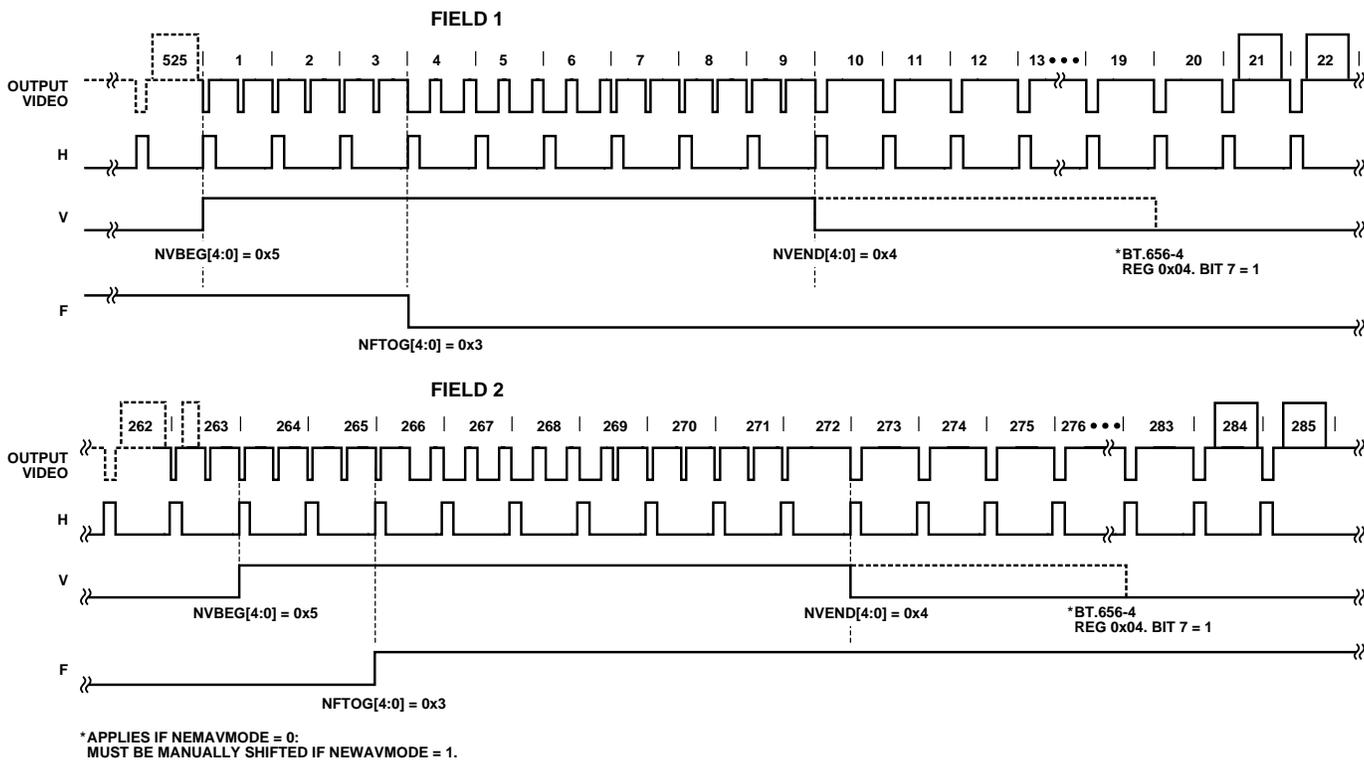
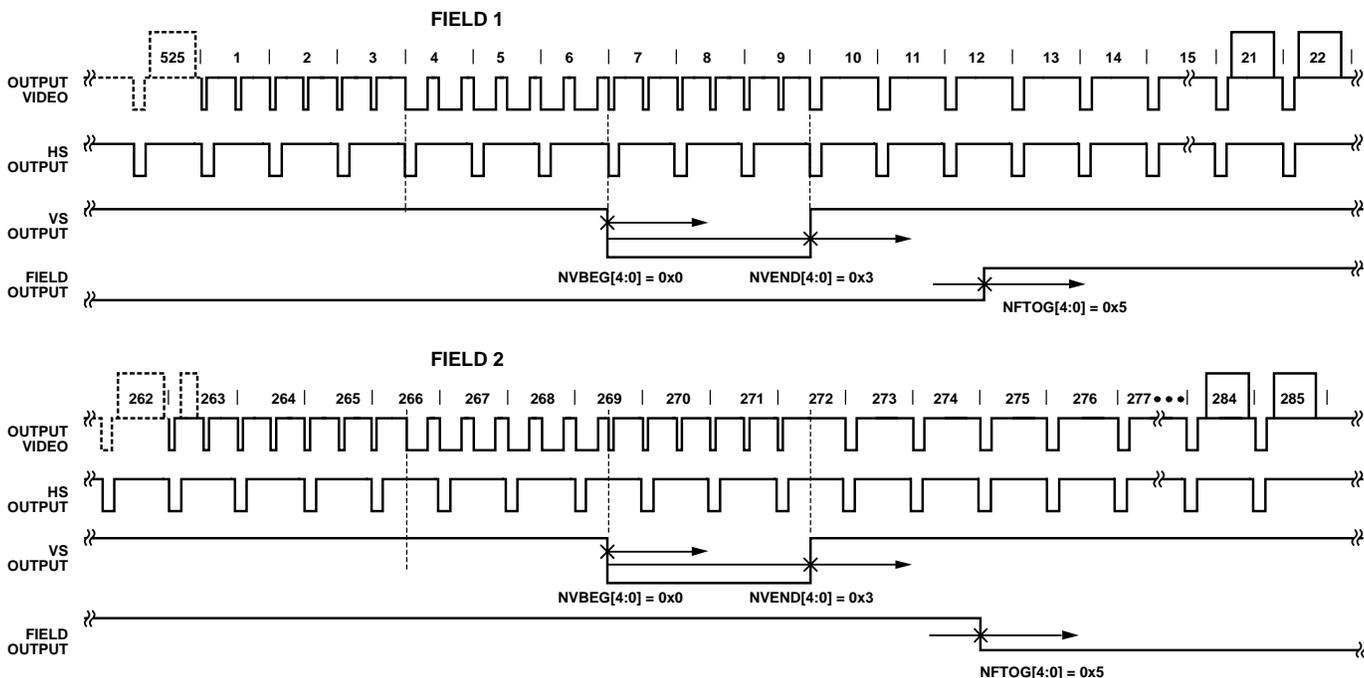
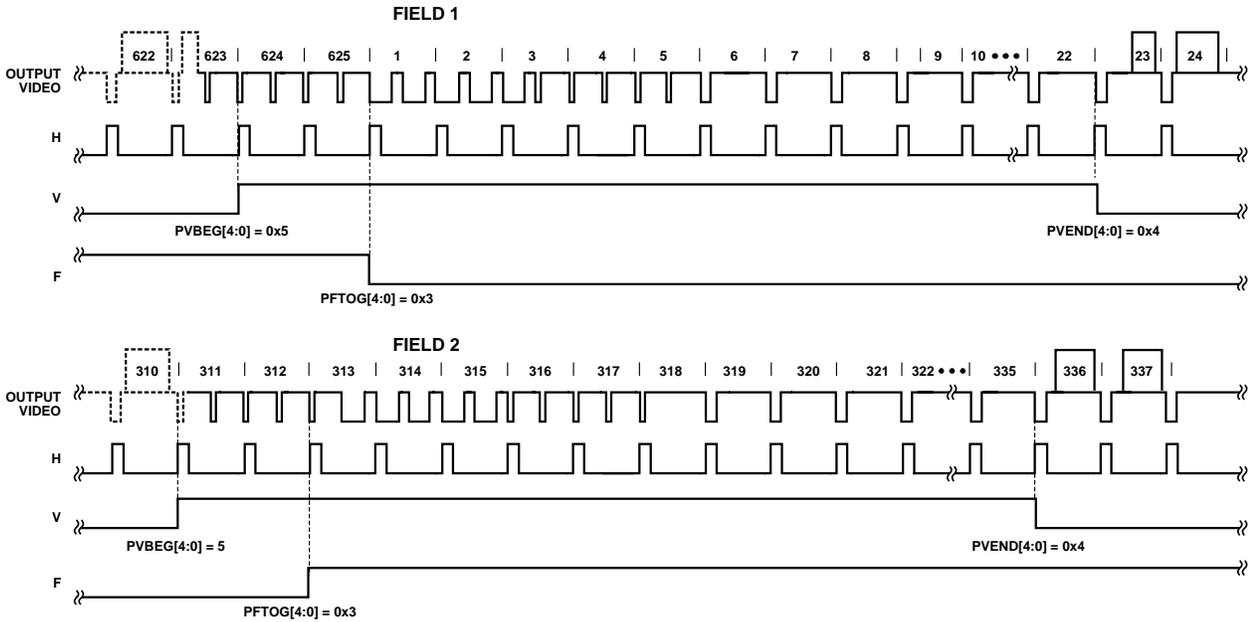
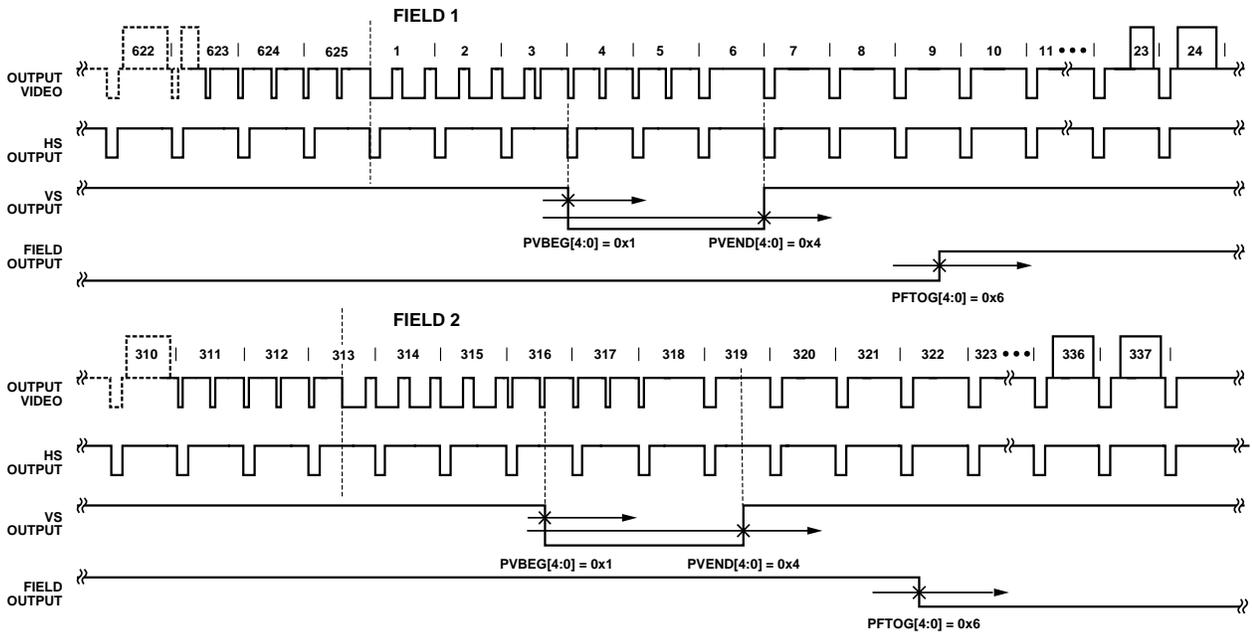

Figure 21. NTSC Default (BT.656). The polarity of H, V, and F is embedded in the data.
Figure 22. NTSC Typical VSync/Field Positions Using Register Writes in Table 55
Figure 26. PAL Default (BT.656). The polarity of H, V, and F is embedded in the data.
Figure 27. PAL Typical VSync/Field Positions Using Register Writes in Table 56
Setting NEWAVMODE to 1 (default) enables the manual position of the VSYNC, Field, and AV codes using Registers 0x34 to 0x37 and 0xE5 to 0xEA. Default register settings are CCIR656 compliant; see Figure 21 for NTSC and Figure 26 for PAL. For recommended manual user settings, see Table 55 and Figure 22 for NTSC; see Table 56 and Figure 27 for PAL.
**Table 55. Recommended User Settings for NTSC (See Figure 22)**
**Table 56. Recommended User Settings for PAL (See Figure 27)**